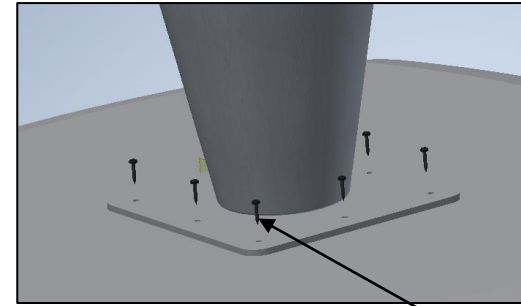

Figure 2
2. Place the base on the top and align the holes with the pilot holes in the top, then secure with the screws provided (Figure 2)